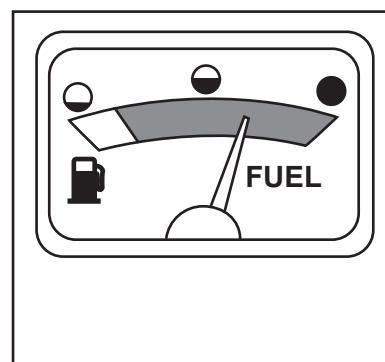

Figure 58. Fuel Gauge
3. Be sure baler has plenty of fuel. Do not allow a diesel engine to run out of fuel (see Figure 58).